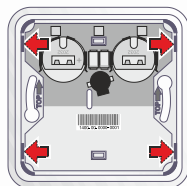

Fig. 2b
- Release the bottom part of the housing by pressing the 4 tabs in the corners as shown in Fig. 2b. Loosen each of them with a flat-headed screwdriver below a 45° angle.
- Insert the middle part into the bottom part so that the four tabs are secured in place as shown on Fig. 2b.